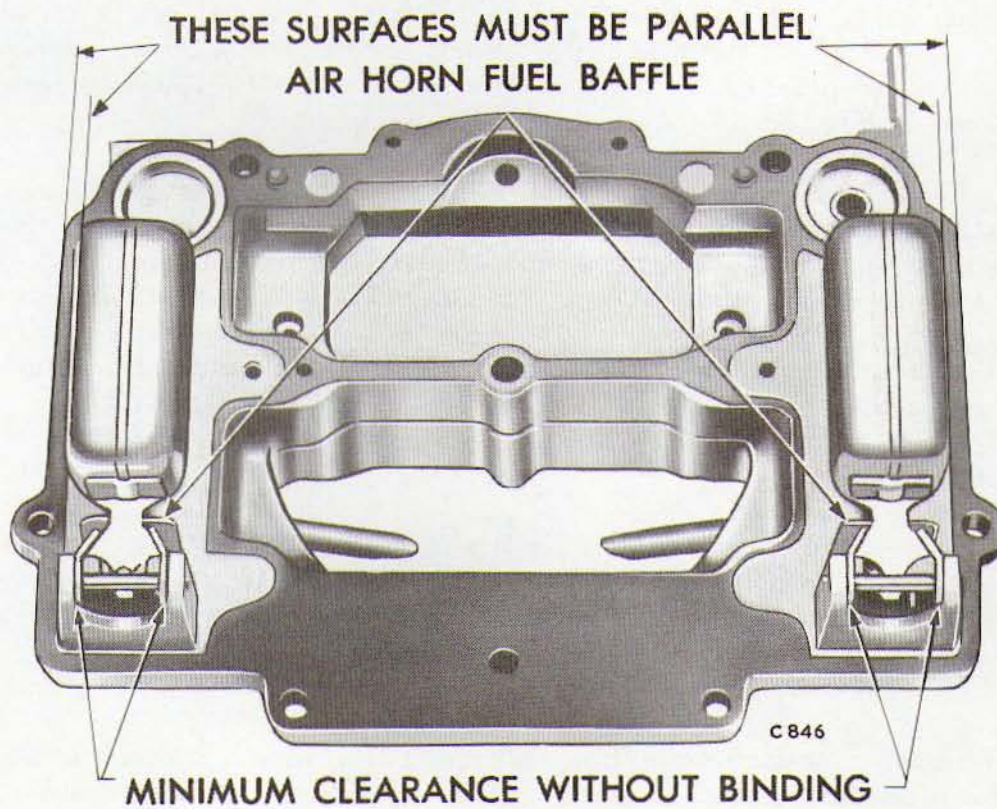

Fig. 16 Check Float Alignment
- (1) Sight down the side of each float shell to determine if the side of the float is parallel to the outer edge of the air horn casting as shown in Fig.16.
- (2) If the sides of the float are not in alignment with the edge of the casting, bend the float lever by applying pressure to the end of the float shell with the fingers while supporting the float lever with the thumb. To avoid damage to the float, apply only enough pressure to bend the float lever.
- (3) After aligning the floats, remove as much clearance as possible between the arms of the float lever and the lugs on the air horn. To do this, bend the float lever. The arms of the float lever should be as parallel as possible to the inner surfaces of the lugs or the casting.